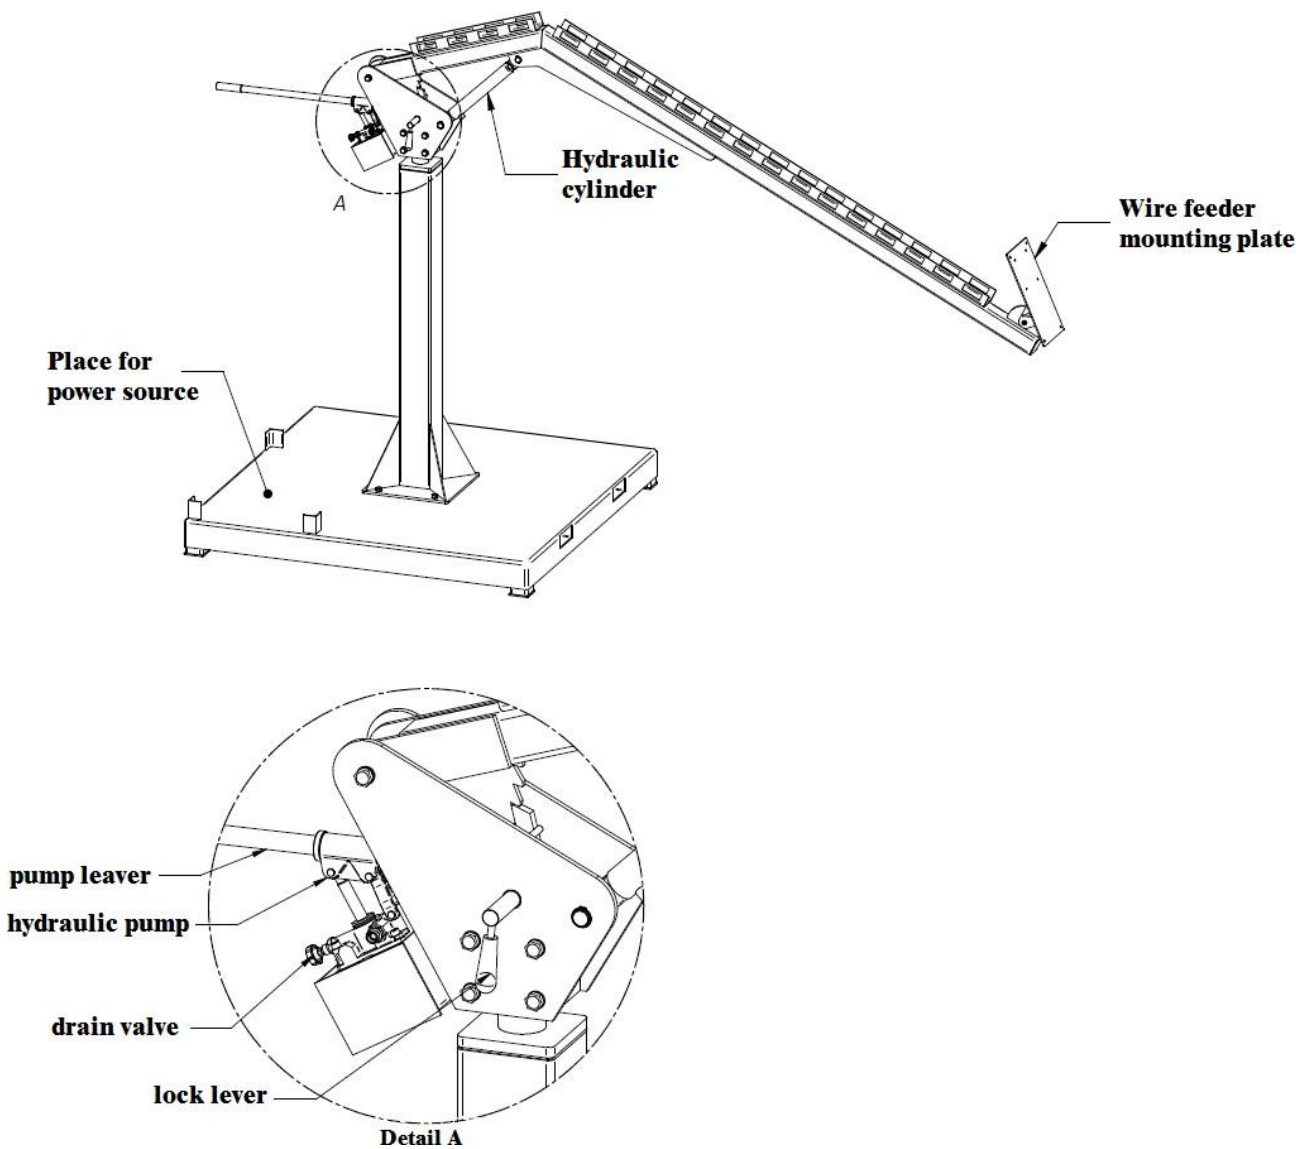

Fig. 1 View of the Hydraulic Wire Feeder Boom
1. Close the Drain Valve by turning it clockwise until its completely shut (Fig.1),
2. Lift the arm of the Hydraulic MIG Wire Feeder Boom to its desired height using pump lever (up and down motion of the lever, Fig. 1). As the arm gets closer to its maximum height, you will feel resistance building up on the pump lever as the hydraulic cylinder reaches its maximum length.
2. Turn the lock lever clockwise (Fig. 1)
- The welding power source needs to be mounted securely in the designated area of the Hydraulic MIG Wire Feeder Boom base (Fig. 1). Wire feeder needs to be placed securely on mounting plate using the grid of pre-drilled holes.